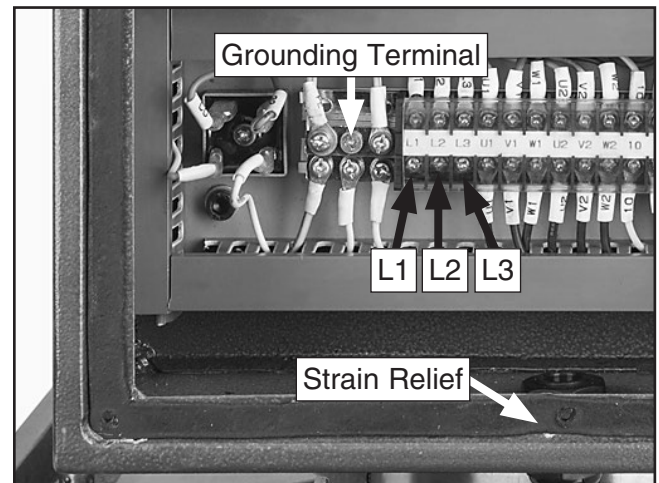

Figure 9. Location of hot wire terminals, ground terminal, and strain relief.
2. Identify the L1, L2, and L3 terminals and the grounding terminal (see **Figure 9**).
3. Thread the power cord through the strain relief shown in **Figure 9**.